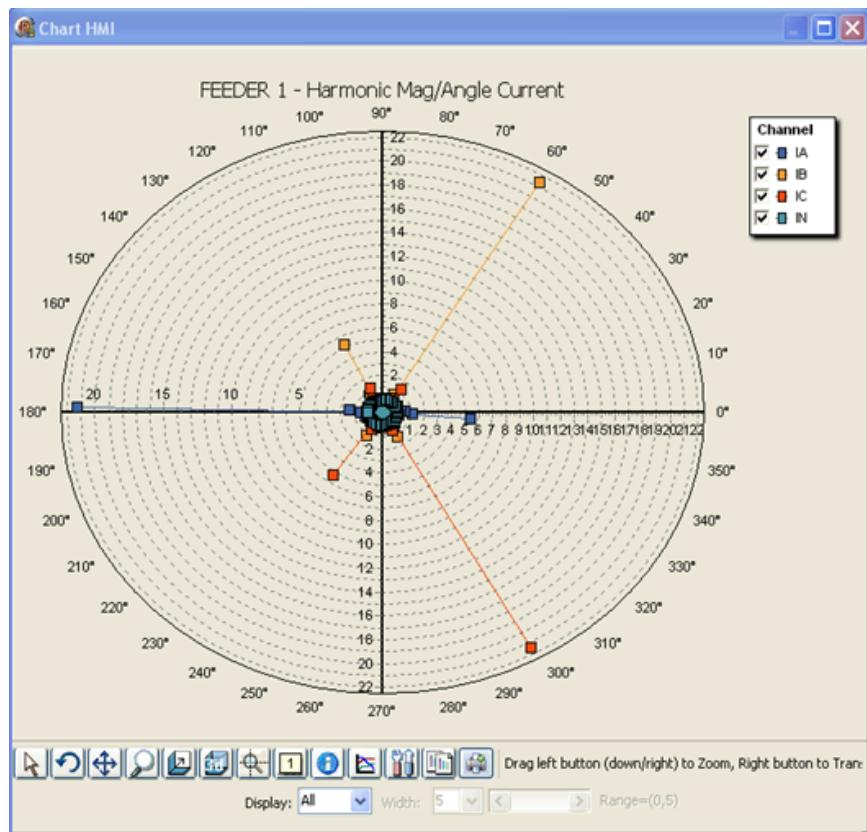

Figure 7.61 Harmonic Polar Chart
Alternatively, selecting **Magnitude, Angles (I)** or **Magnitude, Angles (V)** from the HMI generates a polar plot as shown in *Figure 7.61*.